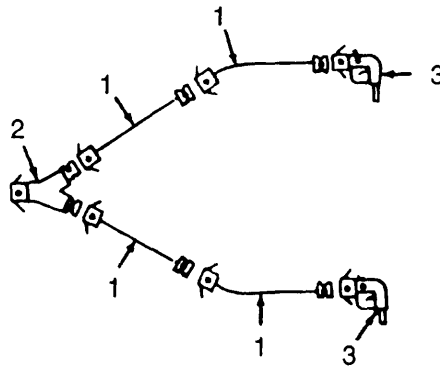

Figure 4-6. Discharge Hoses, Removal/Installation.
a. Removal. Refer to Figure 4-6)
- (1) Pull upon camlock levers on discharge hoses (1) and closed circuit nozzles (3).
- (2) Remove discharge hoses (1) from wye fitting (2) and closed circuit nozzles (3).
- (1) Refer to Figure 4-6 and connect discharge hoses (1) to wye fitting (2) and closed circuit nozzles (3).
- (2) Push down on camlock levers and secure discharge hoses.